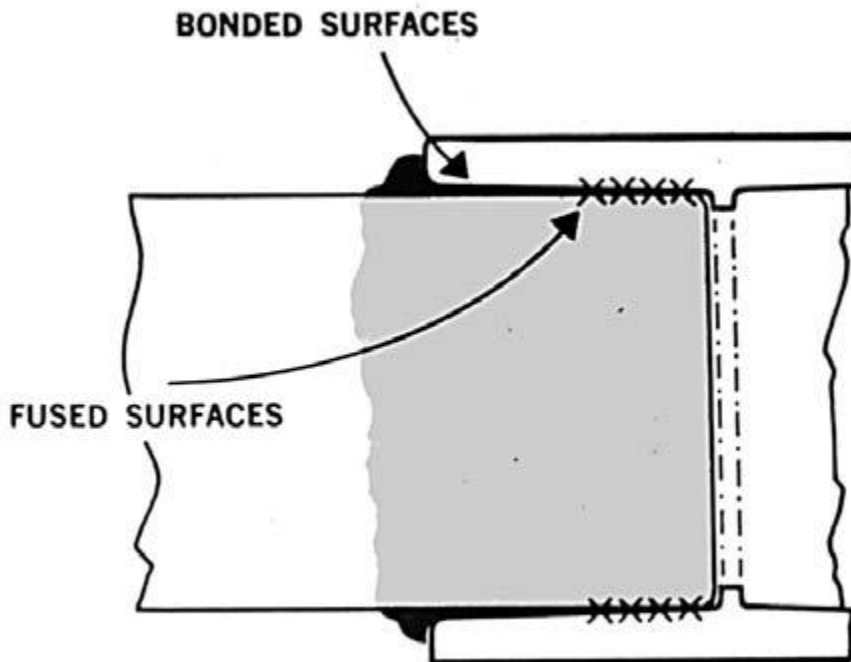

Figure 4: Fused and Bonded Surfaces of Joined Pipe and Fitting
5. As the solvent dissipates, the solvent cement layer and the dissolved surfaces will harden with a corresponding increase in joint strength. A good joint will take the required working pressure long before the joint is fully dry and final strength is obtained. In the tight (fused) part of the joint, strength will develop more quickly than in the looser (bonded) part of the joint. Completed joints should not be disturbed until they have cured sufficiently to withstand handling. Joint strength develops as the solvent cement dries. Information about the development of bond strength of solvent cemented joints is available (see Figure 4).